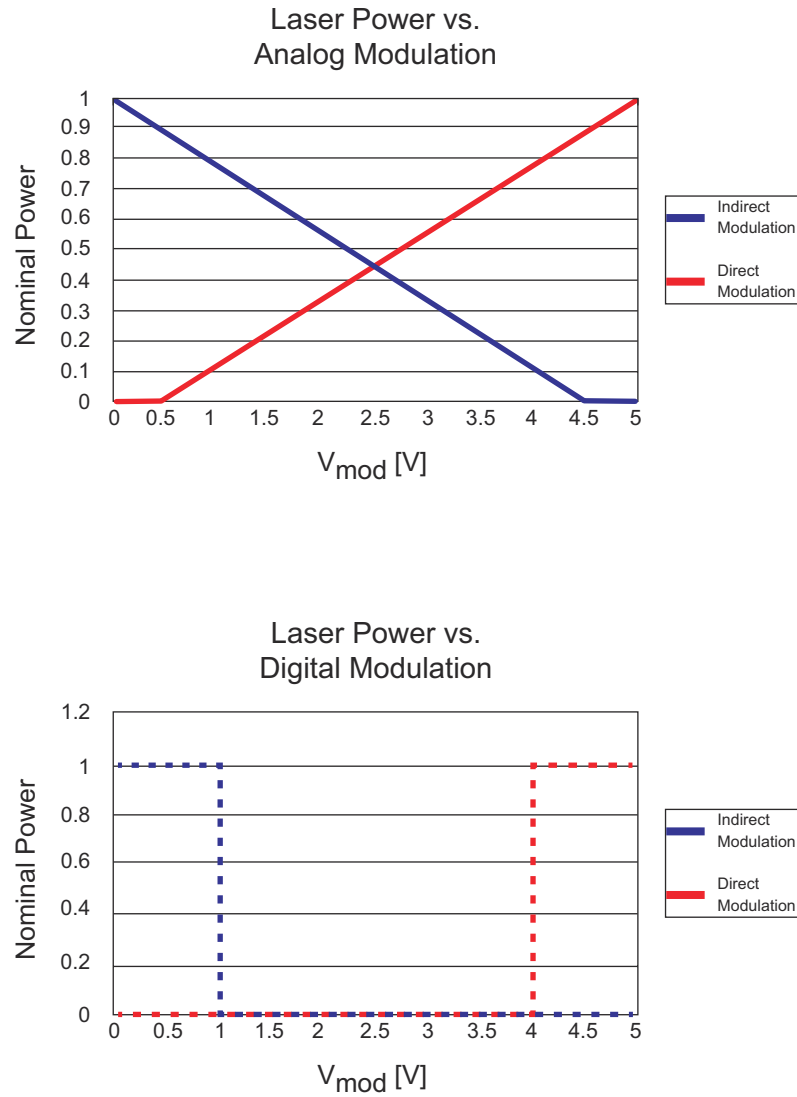

Figure 2-3. Modulation Curves
3. Supply an appropriate voltage (variable power supply, computer, manual potentiometer, pulse generator, etc.) to the appropriate signal lines. As you vary the voltage being applied to the connector, the output power of the laser will also vary according to one of the modulation curves shown in Figure 2-3 (p. 2-5).